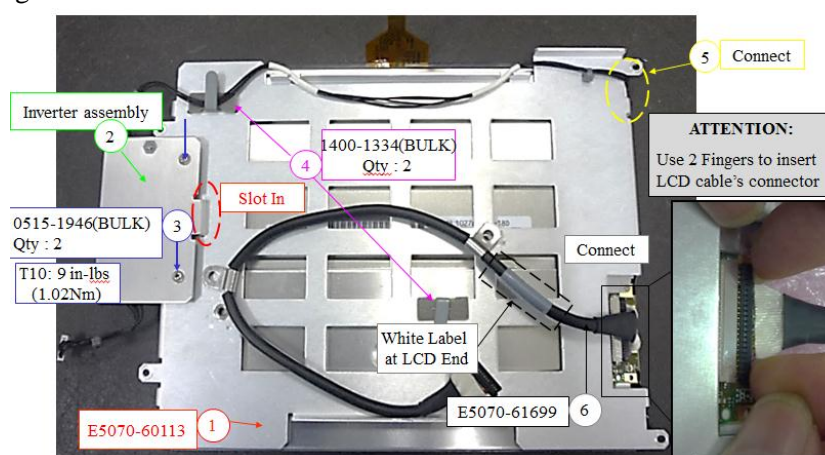

Figure 2-5
4. Install the inverter assembly onto the new CLD T/P display assembly (with LED backlight). Refer to figure 2-5 for details.